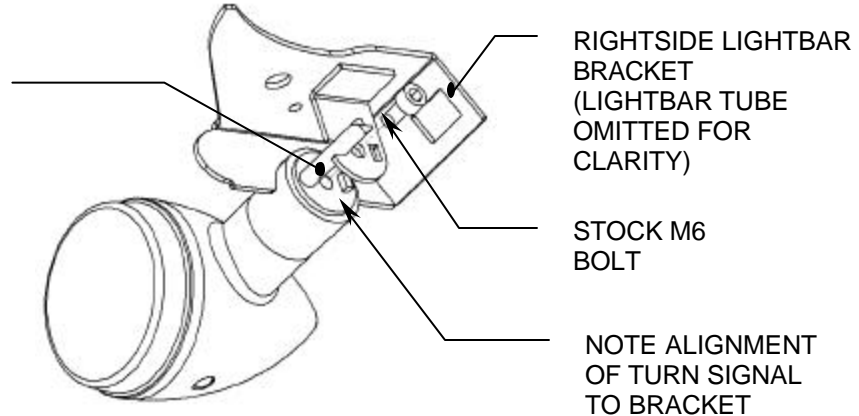

FIGURE 1
1. Remove (2) Phillips head screws from headlight and set aside. Remove headlight from housing, unplug and set aside.
5. Install the turnsignals onto the Cobra lightbar using stock M6 allen bolts, be sure to install the turn signals on the proper side from which they were removed, see Figure 1. Be sure not to pinch the turnsignal wires.
6. On both VTX 1300 and 1800 remove (2) 8mm bolts & nuts from headlight mounting bracket and lower triple clamp and set aside.
7. **For VTX1300** install (2) new 8mm x 50mm flange bolts from the top through the headlight-mounting bracket, and through the lower triple clamp.
**For VTX1800** install (2) new 8mm x 55mm flange bolts from the top through the headlight-mounting bracket, and through the lower triple clamp.